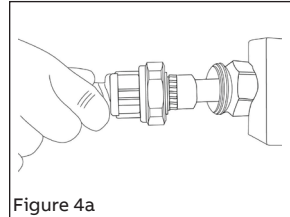

Figure 4a
- 4a Mount hub in desired location. When the sealing compound is solidified (after approximately 1 hour), place encapsulated assembly into hub and secure in position by tightening union until it bottoms (metal to metal contact) (Figures 4a and 5a).